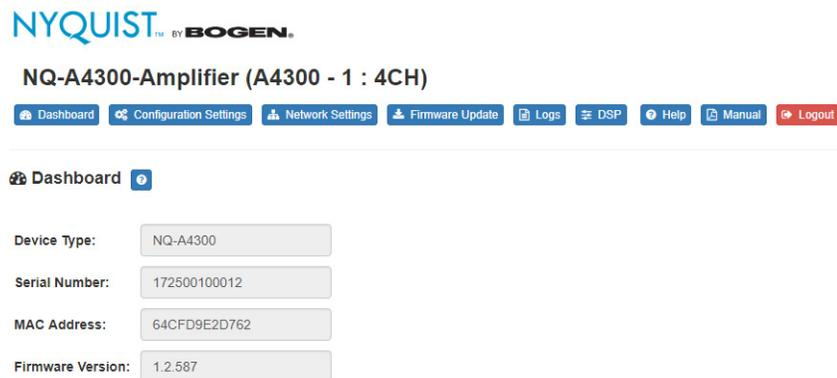

Figure 2, Matrix Mixer Pre-Amp Dashboard
- Figure 2, Matrix Mixer Pre-Amp Dashboard 2